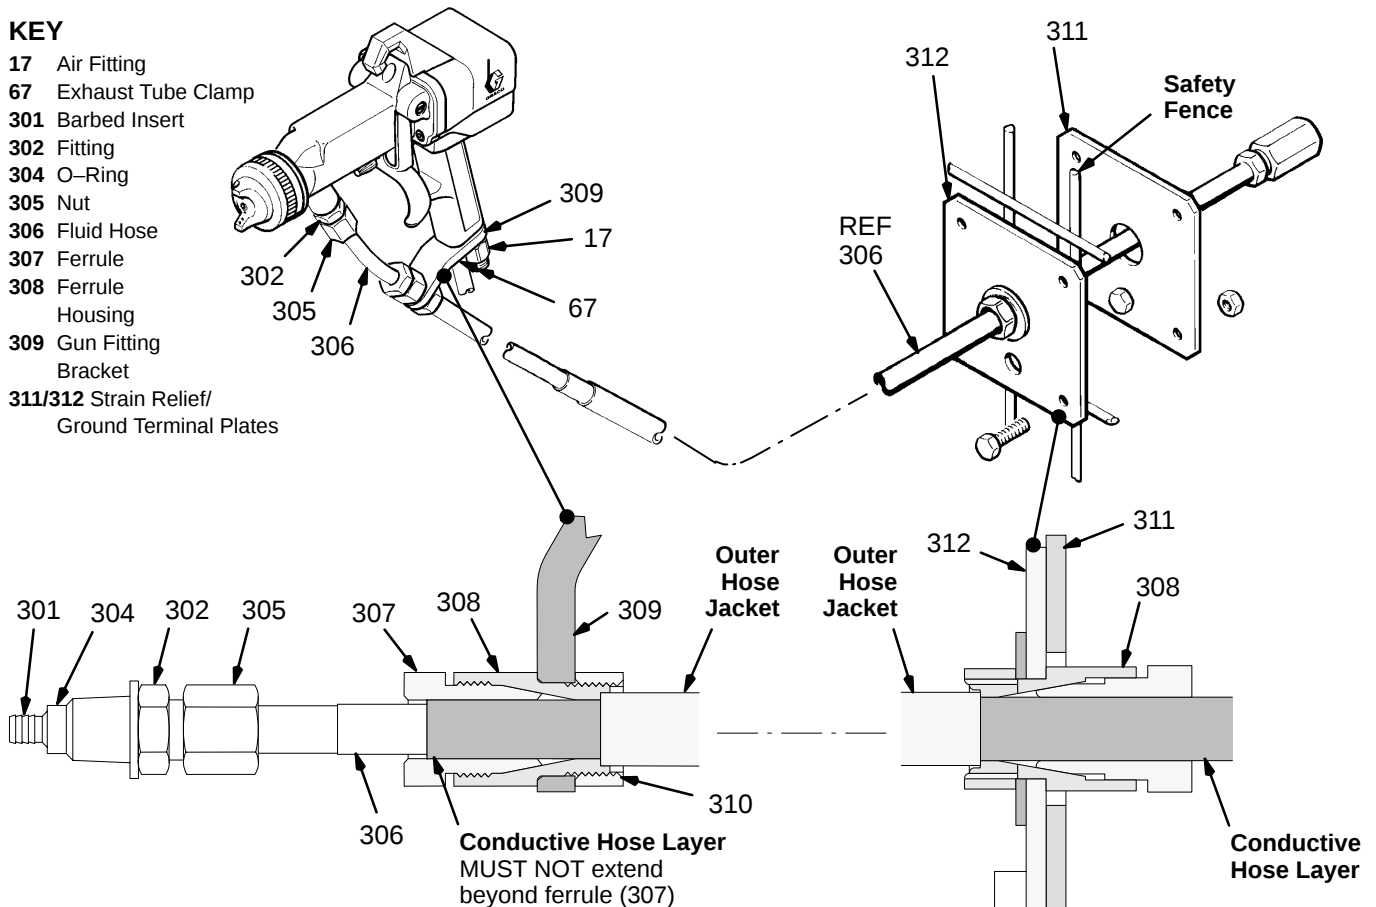
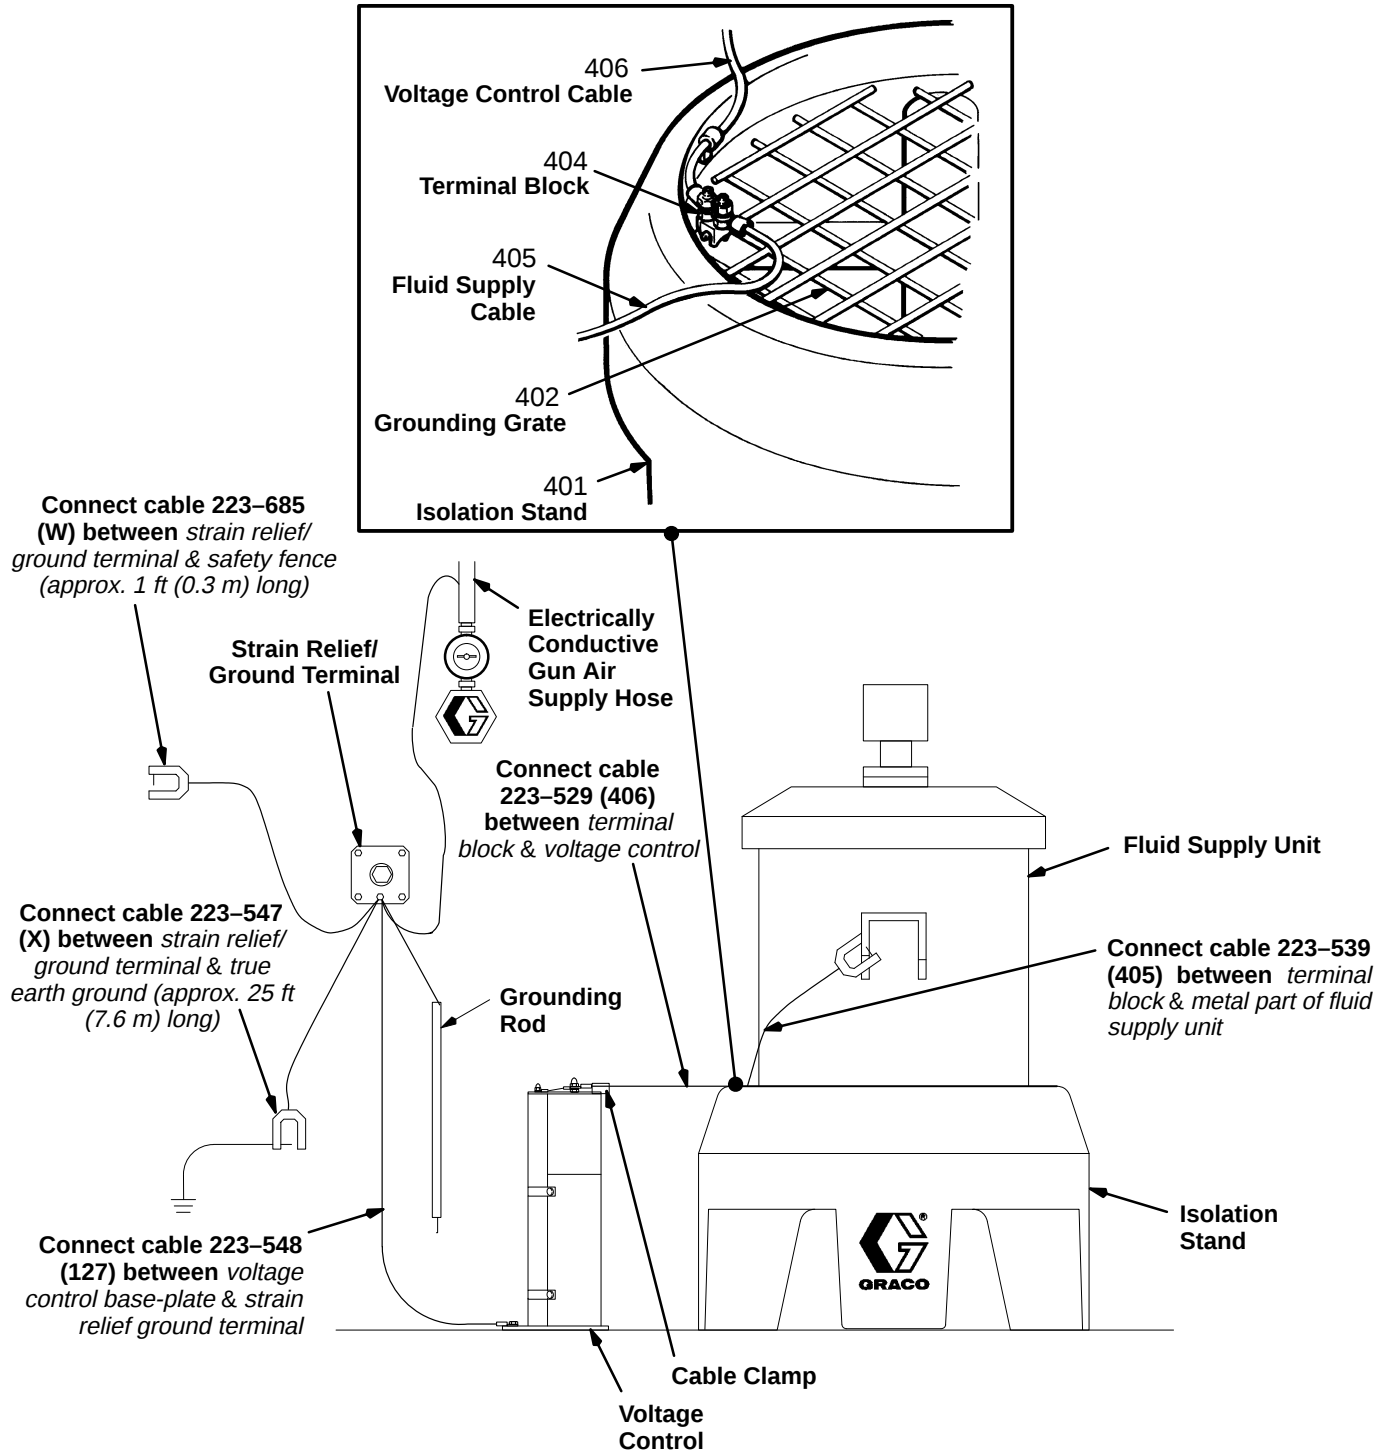

Fig 5
Fig 6
Two plates (311 & 312) are provided to relieve strain and ground the fluid hose conductive hose layer. They also function as a grounding terminal as shown in Fig 6, page 8. Mount the plates, with the fluid hose, to the side of the fence as shown in Fig 5.
1. Remove the exhaust tube clamp (67) and air fitting (17) from the spray gun. See Fig 5.
2. Using petroleum jelly, lubricate o-ring (304) on hose barbed insert (301). Then push the hose barbed insert into the gun barrel until the gun barrel is pressed against shoulder of the barbed insert (301).
3. Tighten the fitting (302) until the o-ring on the fitting is compressed to about half its original thickness.
4. Tighten the nut (305) against the fitting (302).
5. Align the bracket (309) holes with the air inlet and exhaust outlet, and secure the bracket with the air fitting (17) and exhaust tube clamp (67).
1. Connect the interconnect cable (406) between the terminal block and voltage control. See Fig 6. Fasten the cable in cable clamp to provide strain relief.
2. Connect the voltage control ground cable (127) to the strain relief/ground terminal.
3. Connect the strain relief/ground terminal cable (X) to a true earth ground.
4. Connect the strain relief/ground terminal cable (W) to the safety fence.
Connect the grounding rod to the strain relief/ground terminal. See Fig 6. Hook the grounding rod onto the fence near the gate, as shown in Typical Installation.
1. Place the fluid supply unit on the isolation stand. See Fig 6.
2. Connect the cable's (405) c-clamp from the isolation stand terminal block to a metal part of the fluid supply unit.